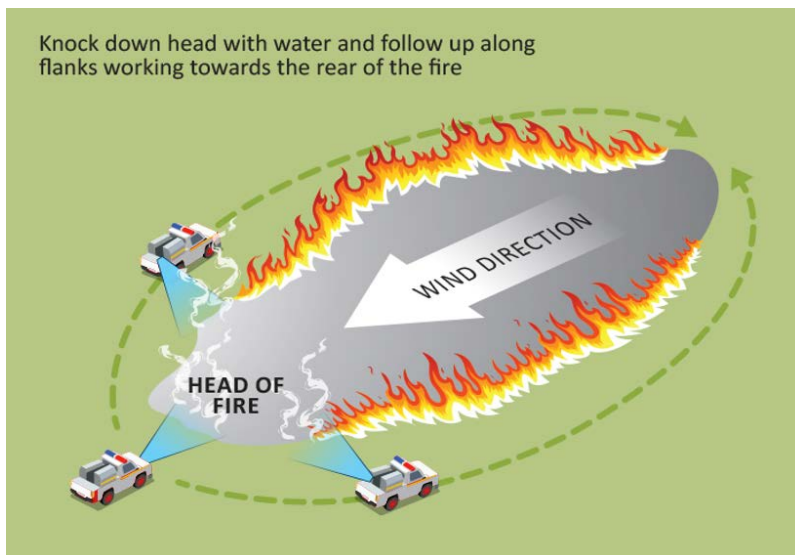

Figure 6 Direct attack on the head
- Direct attack (Figures 6 and 7)